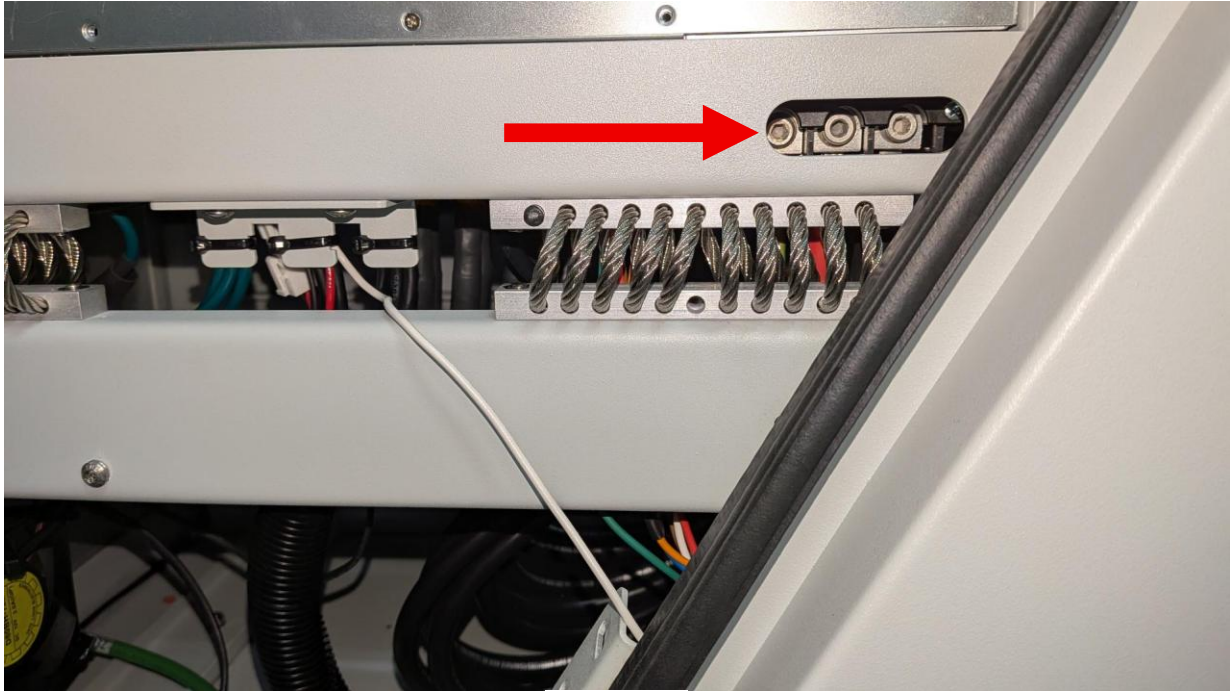
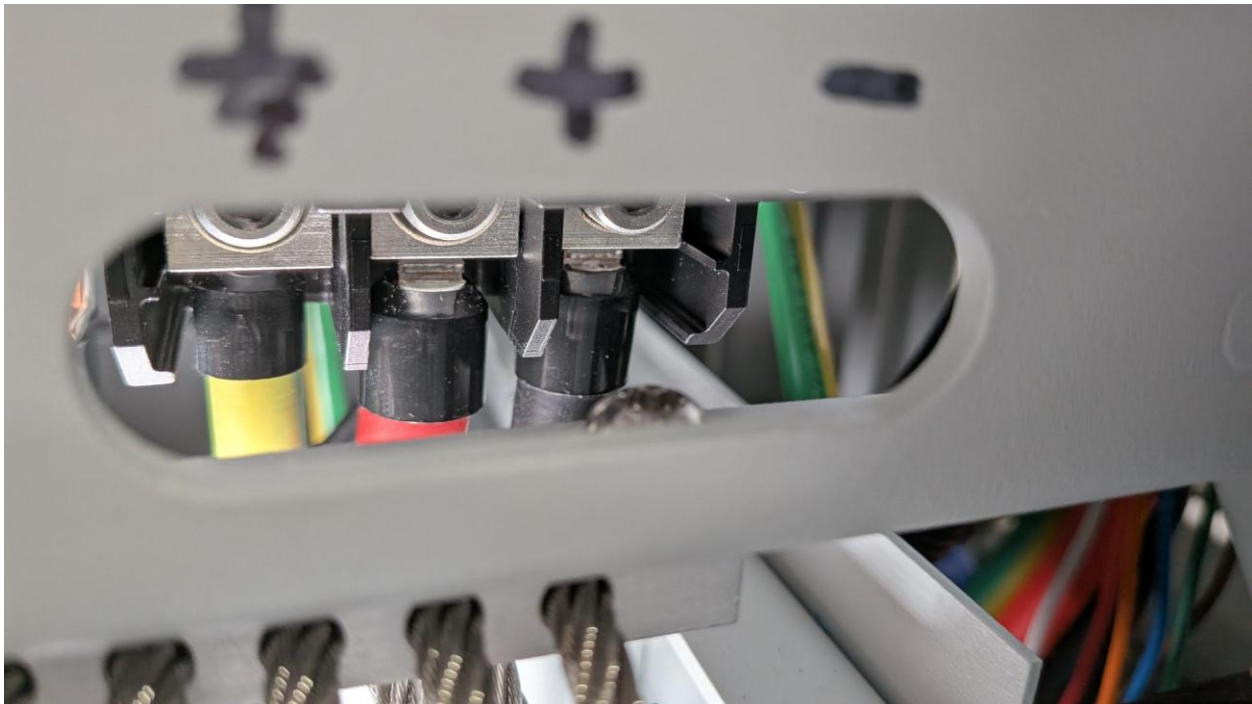

Figure 16
Figure 17
14. Notice the access slot for output power terminals in Figure 16. Observe their order as shown in Figure 17, then remove wires with 3/16 Allen.